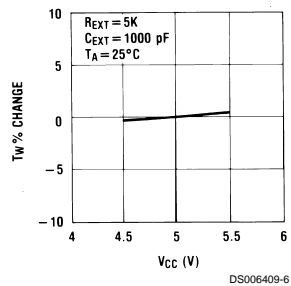

FIGURE 5.
7. Output pulse width versus  $V_{CC}$  and temperatures: Figure 5 depicts the relationship between pulse width variation versus  $V_{CC}$ . Figure 6 depicts pulse width variation versus temperatures.
9. Under any operating condition  $C_X$  and  $R_X$  must be kept as close to the one-shot device pins as possible to minimize stray capacitance, to reduce noise pick-up, and to reduce I-R and Ldi/dt voltage developed along their connecting paths. If the lead length from  $C_X$  to pins (6) and (7) or pins (14) and (15) is greater than 3 cm, for example, the output pulse width might be quite different from values predicted from the appropriate equations. A non-inductive and low capacitive path is necessary to ensure complete discharge of  $C_X$  in each cycle of its operation so that the output pulse width will be accurate.